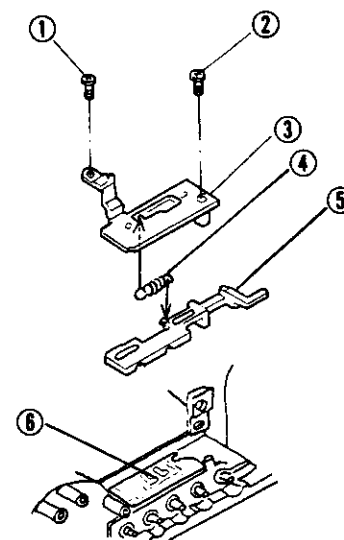

Fig. 12
- (1) Clean up both contacts on the W-R changing plate (Fig. 12, No. 6) and the Changing lever ass'y (Fig. 12, No. 5).
- (3) Set the Changing lever ass'y (Fig. 12, No. 5) to the Body.
- (5) Set the Changing lever plate (Fig. 12, No. 3) and tighten two Screw (Fig. 12, No. 1, 2).
- (6) Set the Spring (Fig. 12, No. 4).